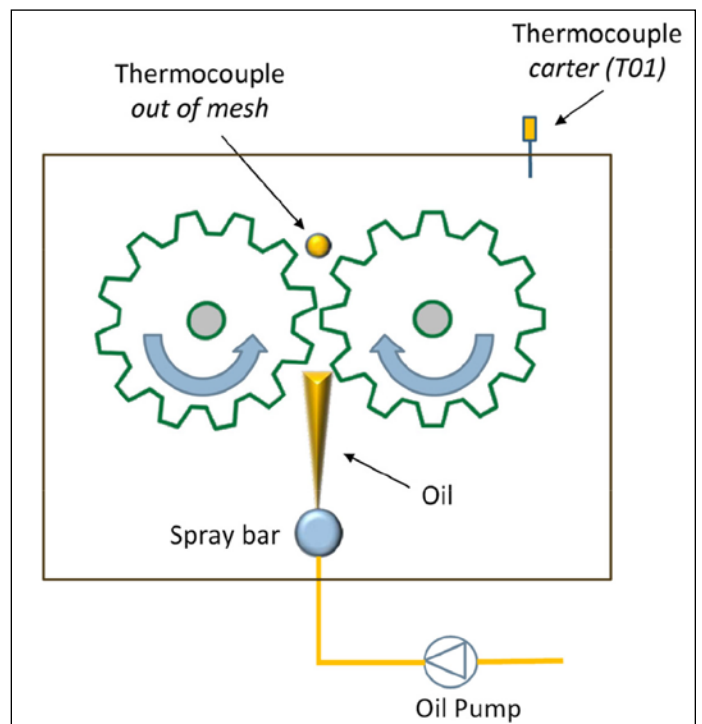

Figure 2 Gear lubrication.
- Warm-up of the test rig and steady-state operation of the test spur gears under normal lubricating conditions; in this phase the gears were jet-lubricated with an in-mesh spray bar (Fig. 2).
Throughout the test, the temperature—at a point very near the mesh, referred to as “temperature out of mesh”—was measured (Fig. 2.) to gain an indication of the heating of the gears. In some tests the bulk temperature of the running gear was measured. At conclusion, the gears were visually inspected and, in some cases, a metallographic observation of the teeth and a hardness measure were made. These results are reported in this paper.
During initial operational mode—but before loss-of-lubrication testing—a single lubricating jet impinged on the gear teeth just prior to mesh. Oil temperature was the same in all tests. To avoid dripping of the lubricant during the oil-off phase, the spray bar was positioned under the gears (Fig.2).